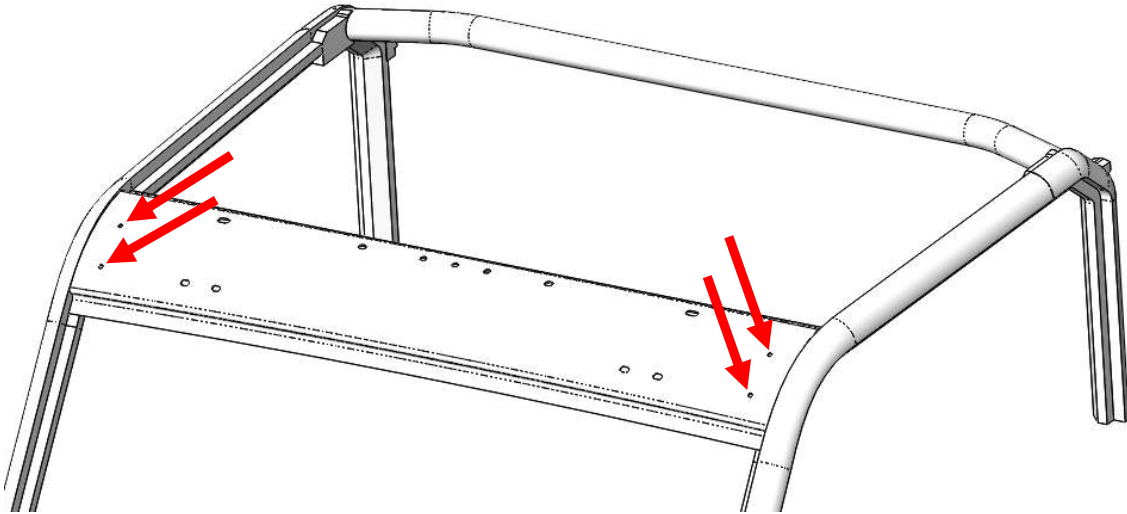
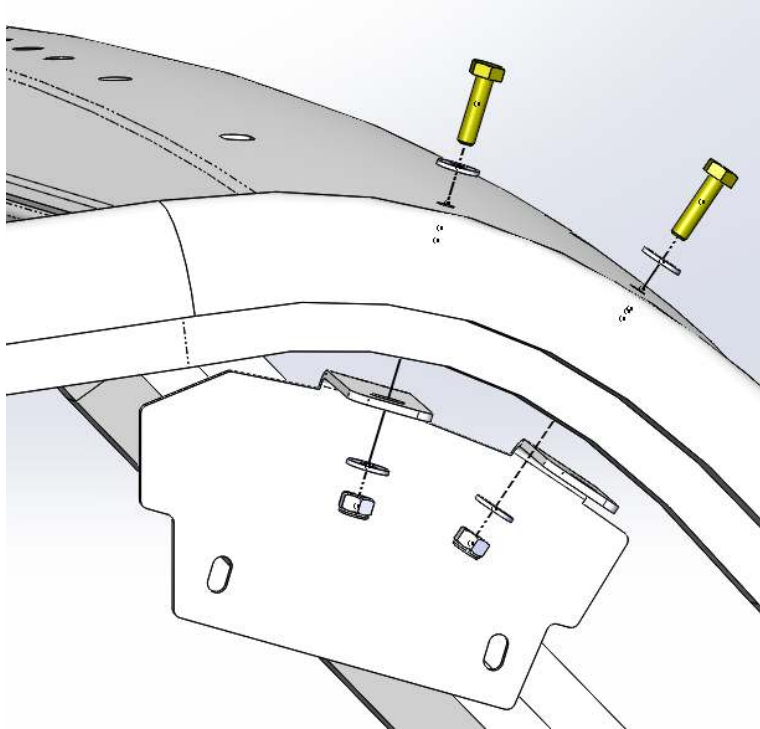

Figure 3: *Audio Mini* bracket mounting locations.
Figure 4: Mounting the *Audio Mini* brackets.
1. Align the *Audio Mini* mounting brackets with the holes shown in Figure 3. Using the supplied ¼”-20 bolts and washers, mount the brackets and loosely tighten the nuts to allow for adjustment of the *Audio Mini* placement. Verify correct orientation of the mounting brackets. See Figure 4. **Note: If you have a roof installed, you will need to remove the roof or loosen the front mounting bolts to install the visor bolts.**